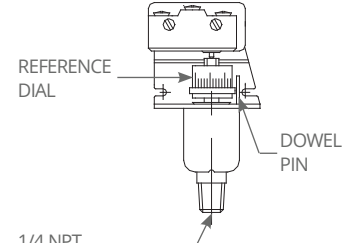

Figure 3
- 1 Turn the reference dial to desired set point by aligning setting on dial with dowel pin. (See Figure 3).